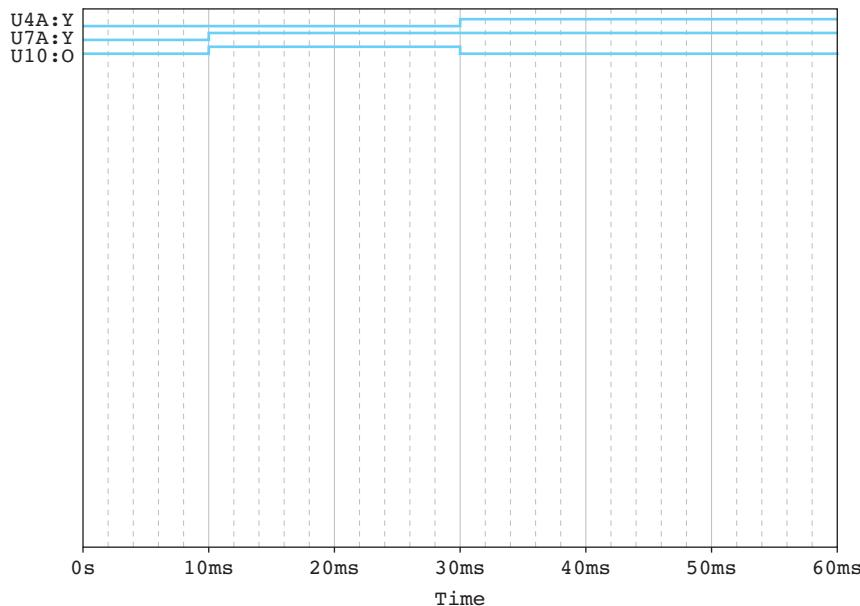

FIGURE 10.66 Digital output of Example 10.22 Part (b).
10. The simulation plot is shown in Figure 10.66. Notice that there are only two values for each output. The line with higher level is 1, while the lower level is 0.